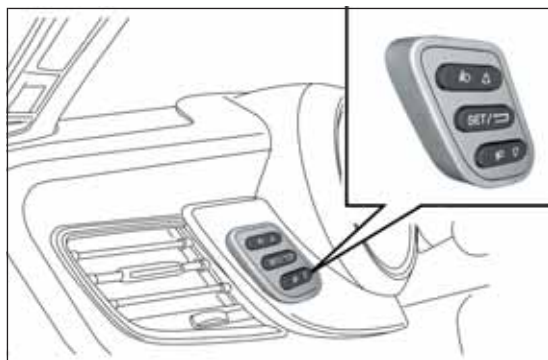

fig. 8
**▲** : To scroll the displayed menu and the related options upwards or to increase the value displayed fig. 8.